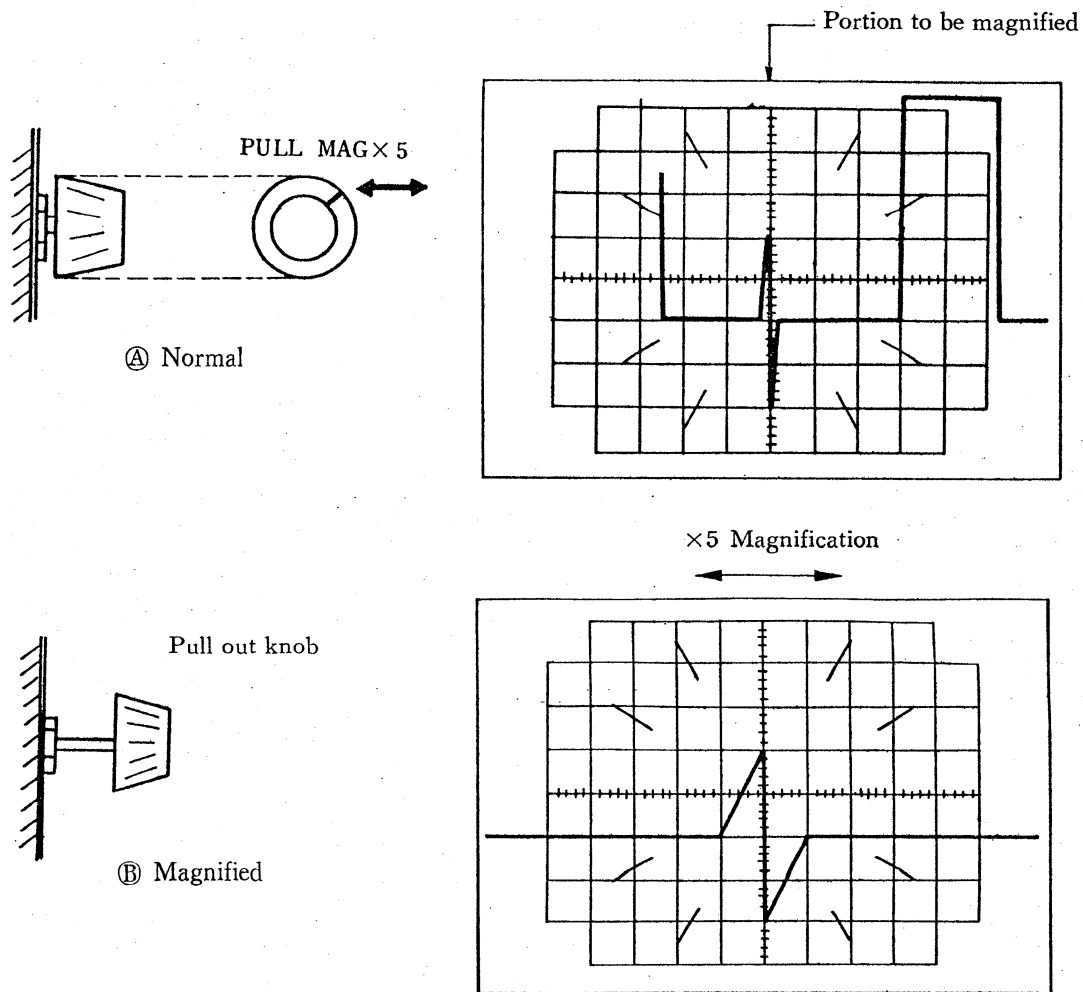

Fig. 3-8 Use of $\times 5$ magnification.
3. The sweep time will be $1/5$ (one-fifth) of that marked for the speed in DIV with the VARIABLE knob at CAL'D (fully clockwise). In Fig. 3-8, (A) and (B) show the normal and magnified waveforms respectively.